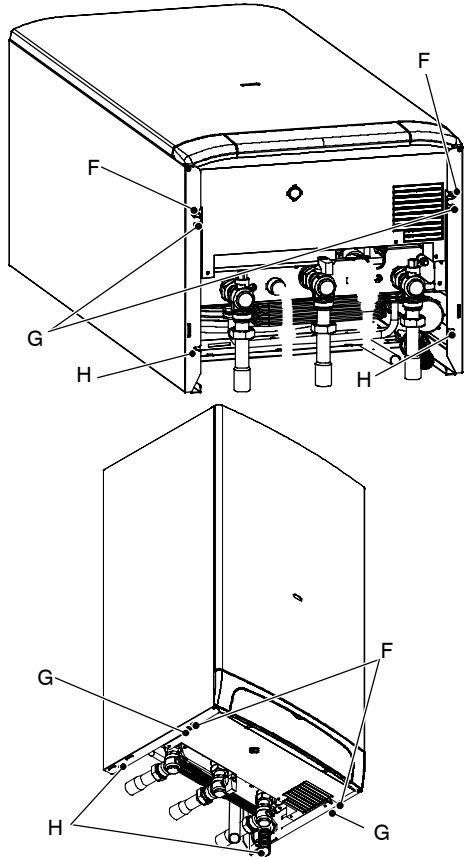

Fig. 6.10
- 2 Remove the screws F and G (Fig. 6.10).